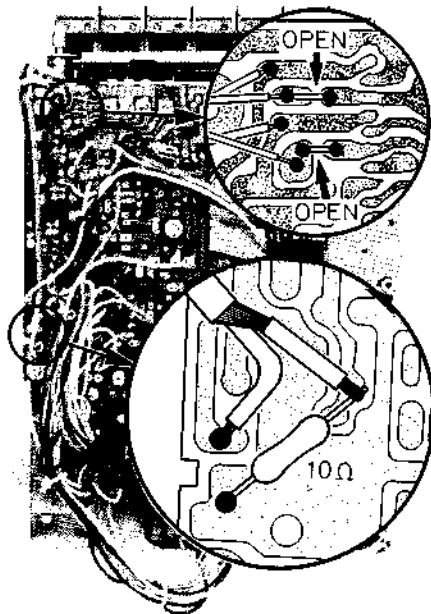

Fig. 14
1. Desolder the copper shield of the signal cable from the erasing head and solder a 10Ω resistor between the copper shield and the printed circuit board (Refer to Fig. 14).
1. Open the circuit by desoldering 2 jumping wires on the conductor side of the printed circuit board (Refer to Fig. 14).
4. Short the circuit by soldering 2 jumping wires on the conductor side of the printed circuit board (Refer to Fig. 14).